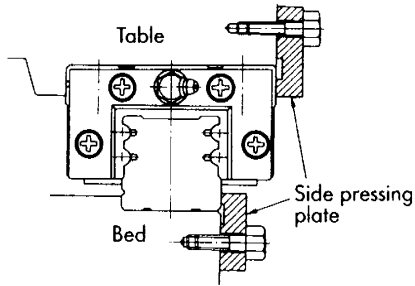

Fig. 51
- Fig. 51; This is the most widely employed method used. Slide and rail should be slightly extended outside from the table and bed. Provide the side plate with a relief, as shown.